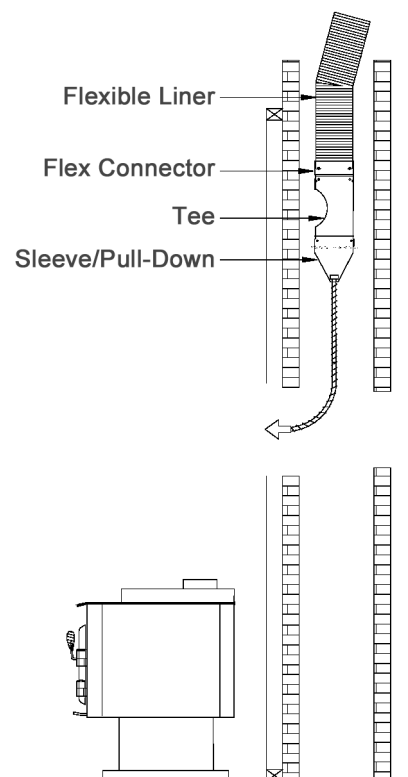
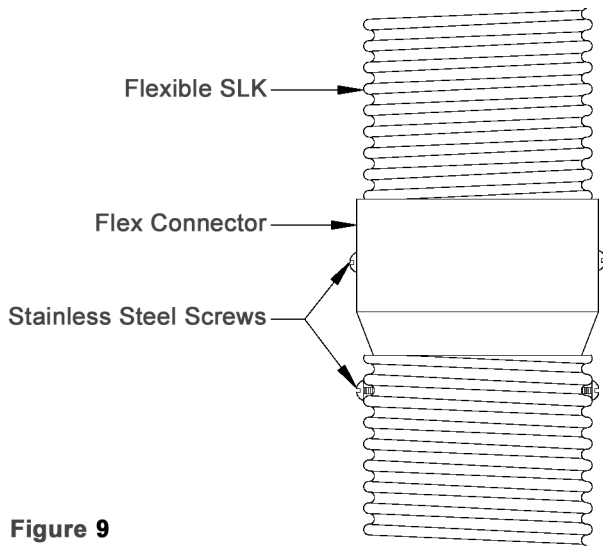

Figure 8
Figure 9
Liner Preparation: If installation permits, the Flex Connector and the Tee body may be installed on the Flex prior to feeding liner into the chimney, as per Figure 8.
Trimming the Liner: Select the length(s) necessary to accommodate the required distance determined above. If any Flexible Liner requires cutting, use a hacksaw, snips or a disc cutter. If necessary, multiple lengths may be joined using the Flex Connector (see Figure 9), up to a limit of 60' in height.
You can also assemble the Sleeve/Pull-Down directly below the Tee (Tee Cap must be removed) once the Flex Connector is secured to the Tee. Secure with three (3) stainless steel screws equally spaced at 120° (see Figure 8).
If the Flexible Liner is to be insulated, do so now. See the previous section titled **Installation of SLK Insulation Wrap**. Gather all necessary component parts, and locate them near the termination of the chimney. This should consist of the Flashing, Flashing Adapter, Round Top, and the prepared length of Flexible Liner complete with Flex Connector, Swivel Tee (with branch removed), the Installation Sleeve/Pull-Down, and rope. Feed the Installation Sleeve/Pull-Down rope down the chimney flue (see Figure 8). While an assistant gently pulls on the rope from below, start lowering the Flexible Liner down into the chimney flue. If additional lengths of Flex are required, join the sections together with a Flex Connector (see Figure 9).